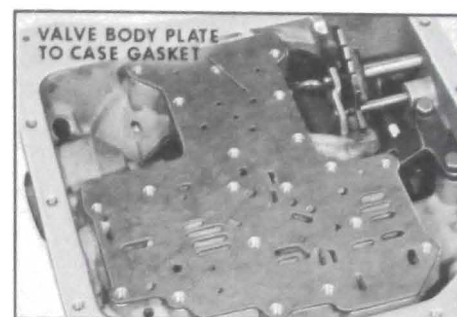

Figure 5-121
12. Remove valve body plate to case gasket. See Figure 5-121.